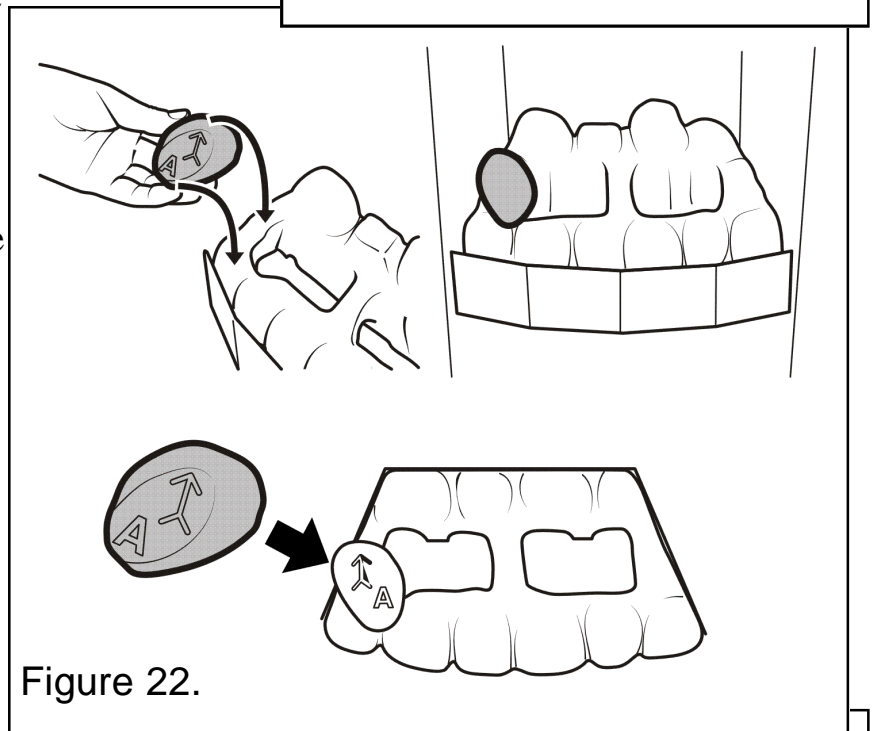

Figure 22.
2. The pebbles should be positioned so that the arrows always point towards the back of the fireplace opening. When located into position the stem of each arrow should be at 90° to the rear of the fireplace opening (See figure 22).
3. Hold pebble 'A' upright with the arrow pointing to the top. Place pebble "A" on top of the base pebble (See figure 22).